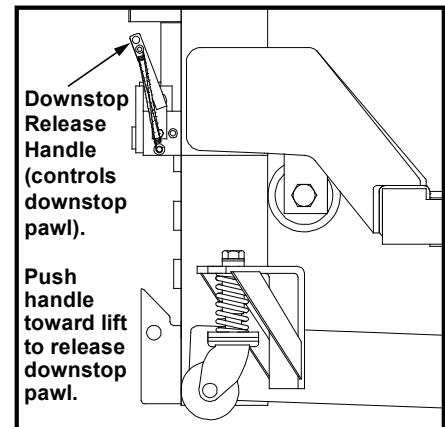

Figure 8
8. At each lift, release the downstop pawl by pushing the downstop release handle toward the lift (see Figure 8.)
If you decide to raise the vehicle again before it has been fully lowered, you must reset the downstop pawls. To manually reset the downstop pawls, pull the downstop release handle toward you on each of the lifts (see figure 8).